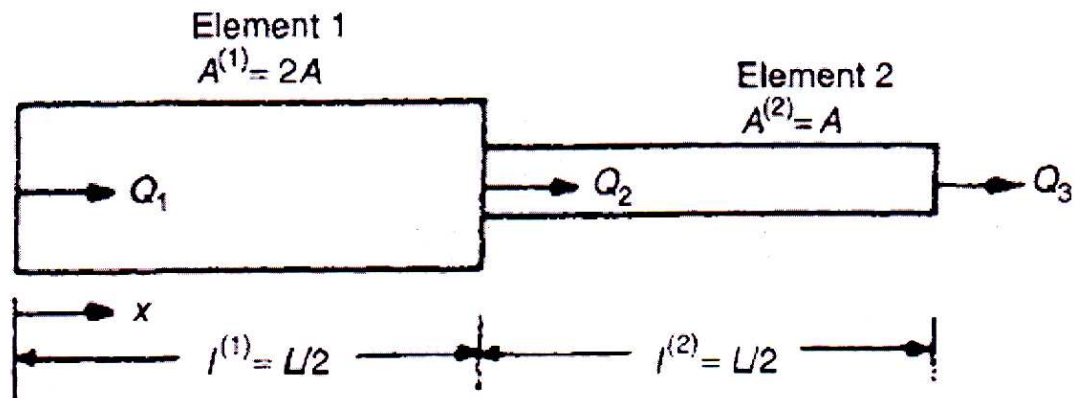

Fig. 5
- b)** Find the natural frequencies of longitudinal vibration of the unconstrained stepped bar as shown in Figure 5. [10]